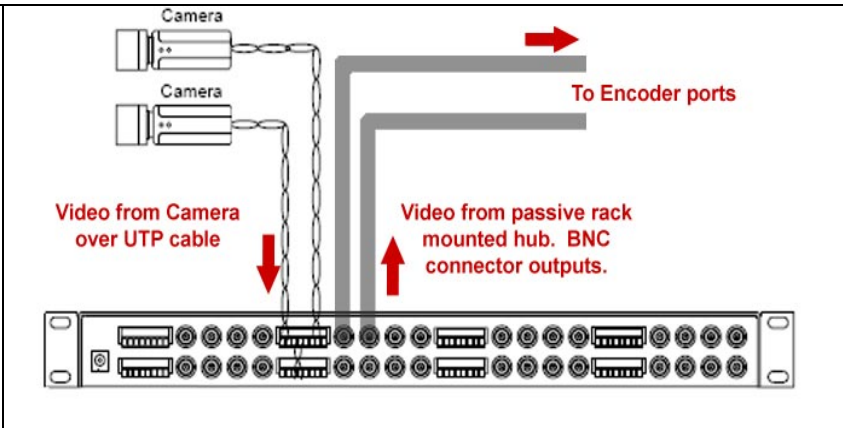

Figure 8
- b. When found, rack mounted passive or active UTP converters (*Figure 8*) may be incorporated into the design if the legacy camera video is being transported by UTP cable. In these cases a BNC patch panel will not be necessary.